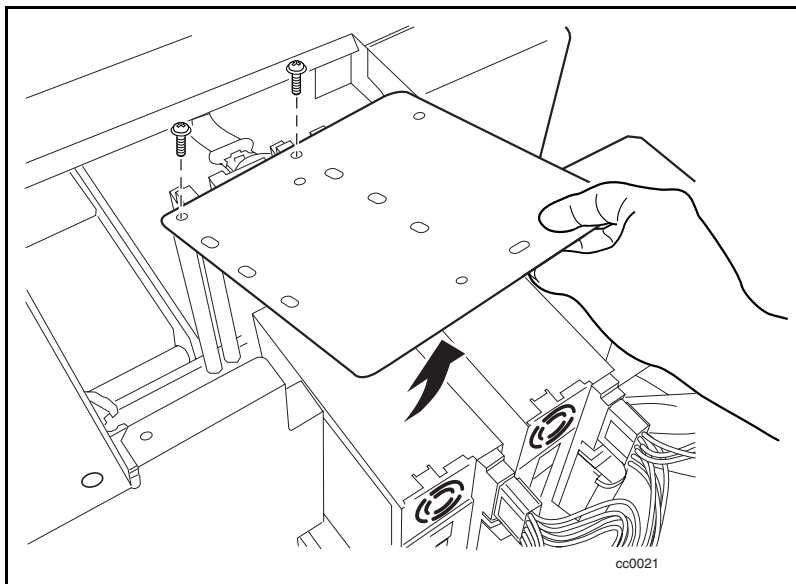

Figure 4. Upper drive mounting plate removal
3. Remove the screws that secure the upper drive mounting plate to the chassis (see Figure 4).